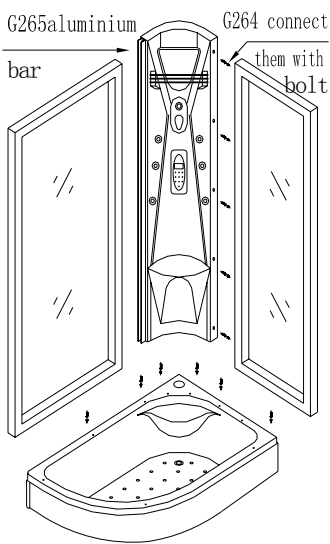

Fig.3
- 3) Install the middle wall to the bathtub with bolts, and then connect the left and the right side glass with middle wall by tapping screws (G264). As to G265: insert the left and right side glass in the middle wall's aluminium bar, and make up the wall assembly. As fig.3